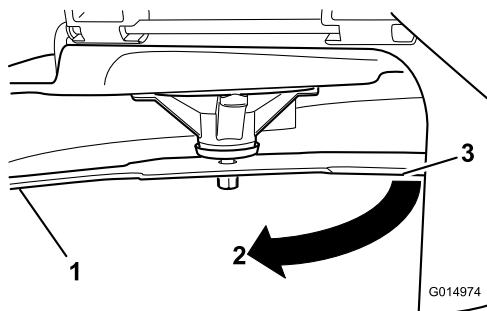

Figure 107
3. Measured distance between blade and the surface (A)
4. Rotate the same blade 180 degrees so that the opposing cutting edge is now in the same position (Figure 107).